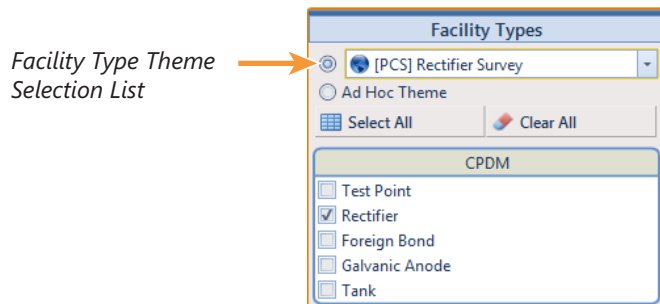
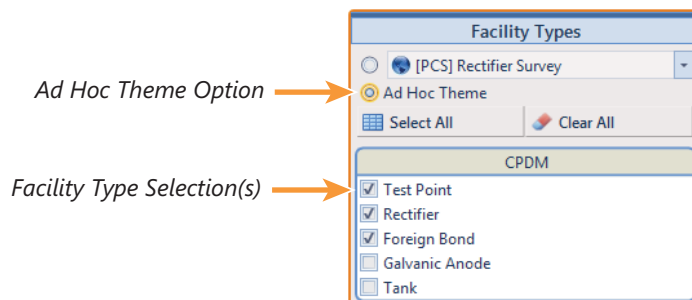

Figure 9-5. Facility Type Theme Option
Figure 9-6. Ad Hoc Theme Option
- a To select a facility type theme, click the themes option button and then click the down arrow and select a theme in list, such as *[PCS] Rectifier Survey* (Figure 9-5).
- b To select multiple facility types, click the **Ad Hoc Theme** option and then click the check box for one or more facility types, such as *Test Point*, *Rectifier*, and *Foreign Bond* (Figure 9-6).
- 3 Select the facility type(s) you want to work with by selecting a *facility type theme* or setting up an *Ad Hoc Theme* in *Facility Types*. See Figure 9-5 or Figure 9-6 on page 462.